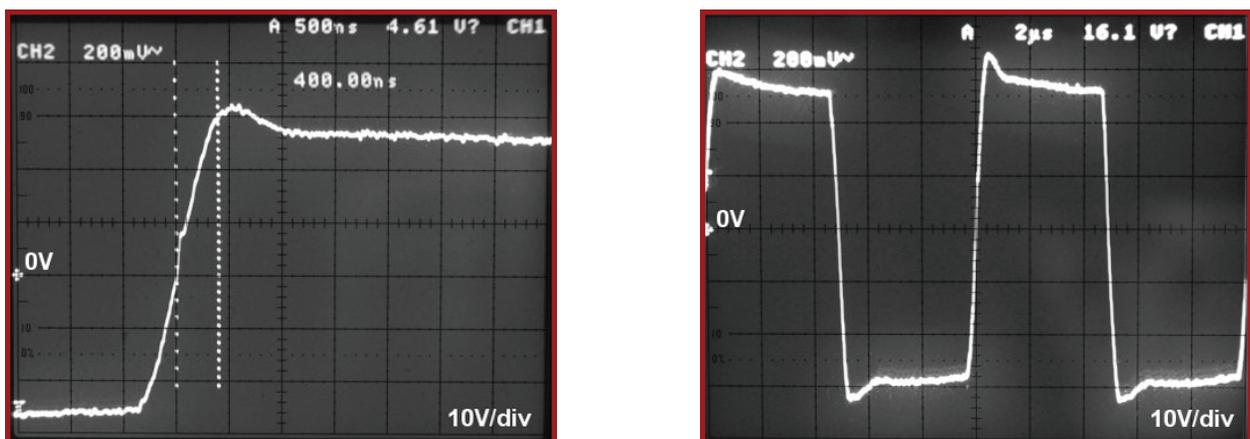

Figure 5-4 Gate Drive Waveforms, V_{GE} as measured at IGBT
6. Using a dual channel oscilloscope with two probes, take a differential measurement of the gate-to-emitter, V_{GE} , voltage at each of the two (2) IGBTs on the half-bridge power board. Verify that the waveforms measured at the IGBT gates approximately match that of the waveforms shown below in Figure 5-4. Risetime (0 to 20V) of the waveform should be less than 250ns and falltime (20V to 0) should be less than 250ns.